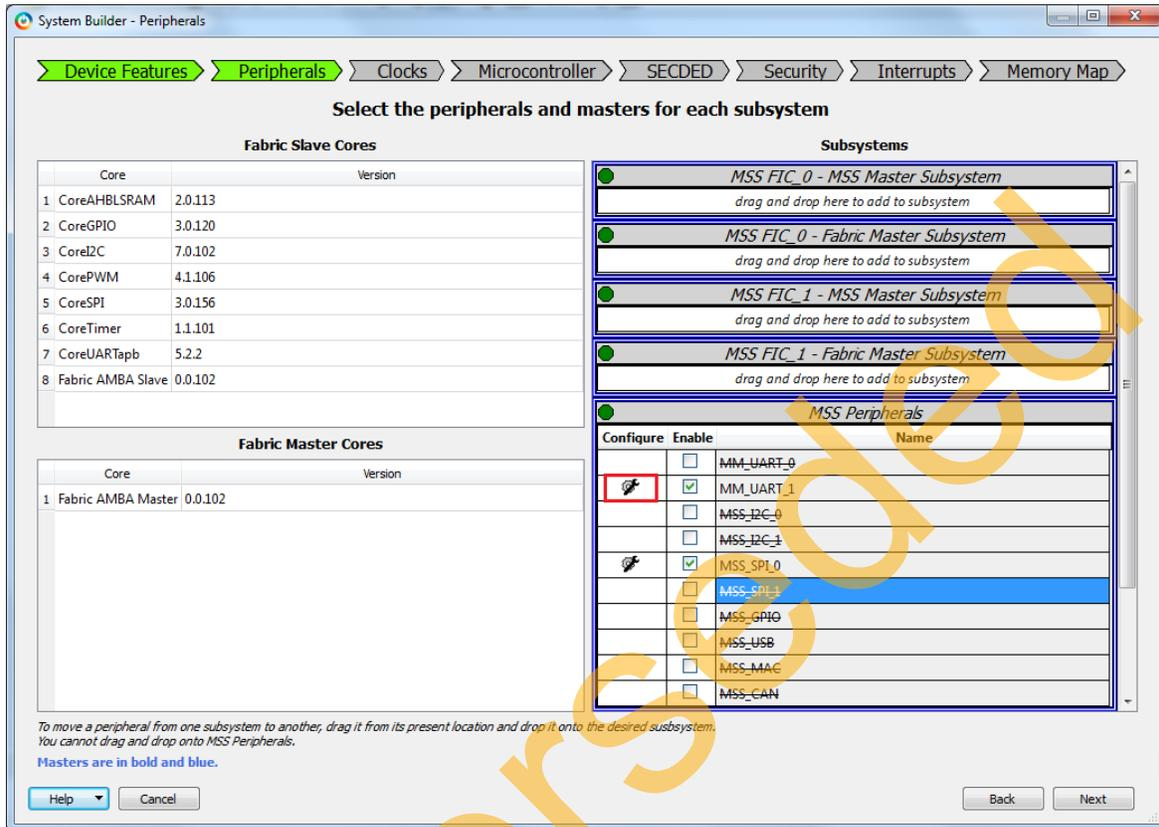

Figure 8 • System Builder – Peripherals Page
- Configure **MMUART_1** for Fabric by clicking on the **MM_UART_1** configurator highlighted as shown in Figure 8.